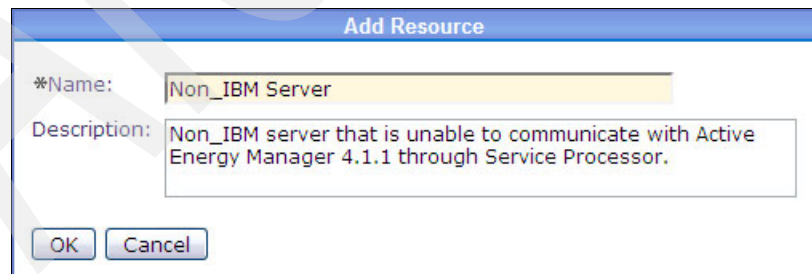

Figure 8-23 Add Resource window
4. Enter the name of system to which you connected Outlet Group 1, as shown in Figure 8-23, and a description (which is optional). The name is shown as a logical module in the Active Energy Manager resources group.